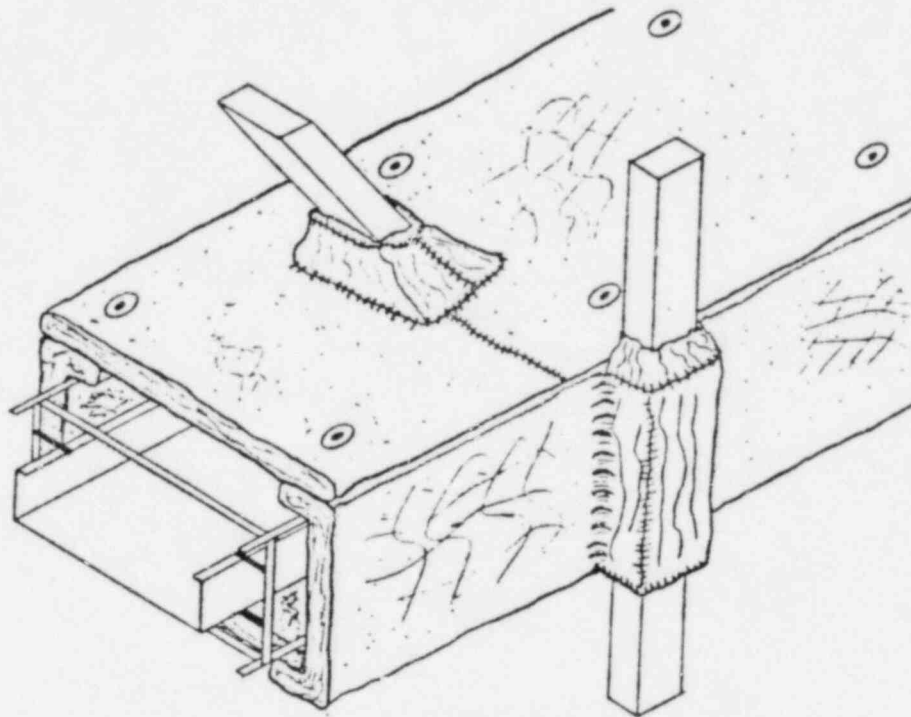

FIGURE 5
6.2.1 If possible, the adjoining or supporting member should be encapsulated within the system using the procedure outlined in Section 6.1 to seal any openings. (See Figure 5).